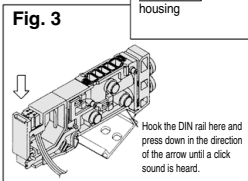

Fig. 3
- 6** As shown in Fig. 3, mount the additional manifold block assembly on the DIN rail on the U side. Refer to the circuit diagram, and insert the lead wire (black) as shown in Fig. 4.